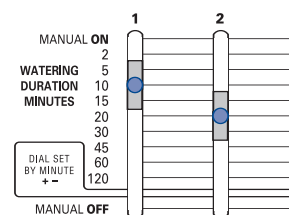

Figure 10: "Slide Switch durations" set at 10 minutes and 20 minutes
- Slide each **Water Duration Slide Switch** to its desired time (from 2 to 120 minutes) for each station. [See Figure 10]